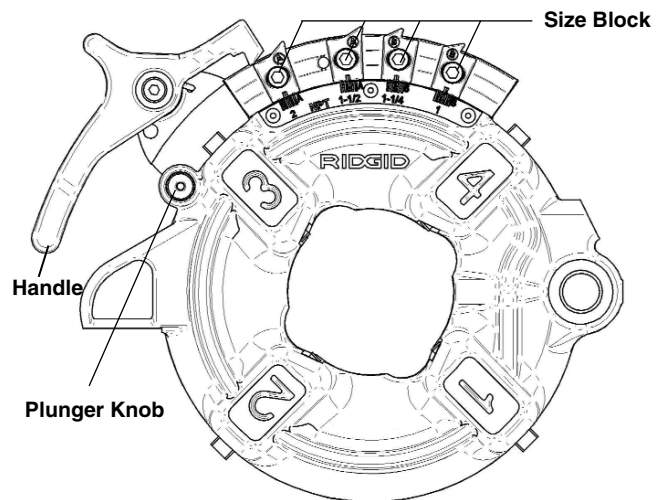

Figure 10 – 816/817 Semi-Automatic Die Head
Semi-automatic die head (*Figure 10*) – When the end of the pipe being threaded is flush with the end of the number 1 die, hit the handle for the dies to release the pipe.
The 816/817 Semi-Automatic Die Head (Figure 10) for right hand threads requires four sets of dies to thread pipe ranging from $\frac{1}{8}$ " through $1\frac{1}{2}$ ". One set of dies is required for each of the following pipe size ranges: ($\frac{1}{8}$ ", $\frac{1}{4}$ " and $\frac{3}{8}$ "), ($\frac{1}{2}$ " and $\frac{3}{4}$ ") and (1 " through $1\frac{1}{2}$ "). Bolt threading requires a separate set of dies for each bolt size.
1. Depress handle so that cam plate rests (Figure 10 – Model 816/817 Semi-Automatic Die Head) against the stop (as shown).